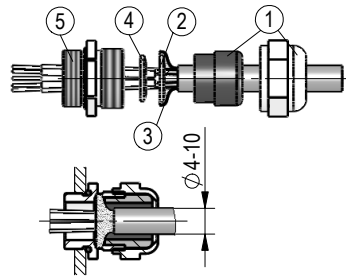

Fig. 4: Cable connection PG9
**With PG9 (fig. 4):**
- Push nut + gasket (1), washer (2) (inner- $\varnothing$  > washer's inner- $\varnothing$  (4)) and washer (4) onto the cable.
- Put the wire screening (3) over the washer's (2) outer surface.
- Push strands through the screw hole (5). Insert parts (4), (3) and (2) into the screw hole (5).
- Fix nut (1) and then fix the complete PG-screw to the casing.